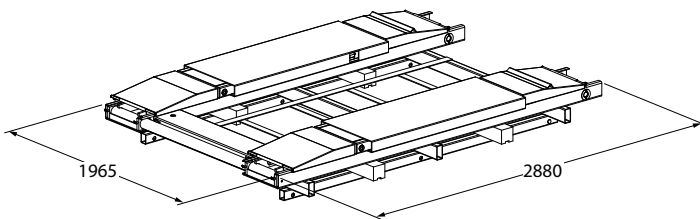
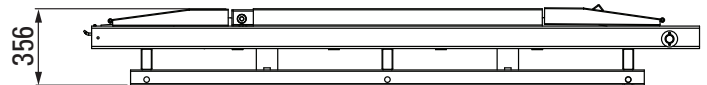

Fig. 1
Fig. 2
Standard versions of the car lift are pre-assembled and equipped as follows (Fig 1 and Fig 2):
7. Push button on lift power unit lowering valve, Fig. 1. This will release the existing pressure in the lift system.
8. Remove and save plug from power unit valve port, Fig. 1. Attach and hand tighten half coupling provided with MLK to valve port.
15. Disconnect the (2) 1/2 couplings on the end of MLK hose. Remove coupling from valve body and replace plug. Using wrench tighten 1/2 turn after o-ring makes contact with valve body. Place 1/2 coupling back on end of hose for future use.